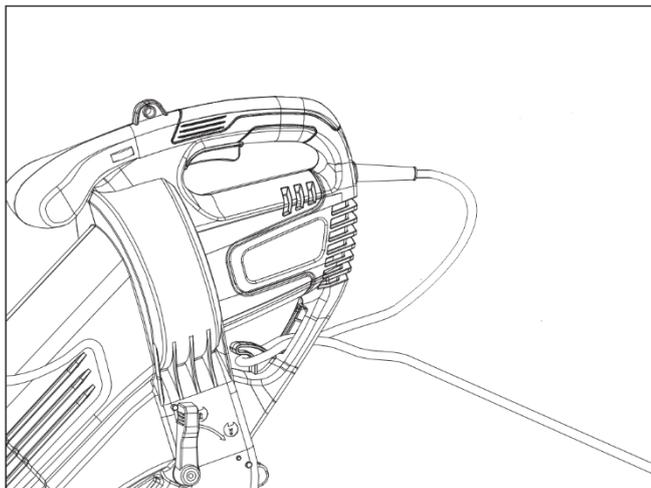

Fig. 3
2. Make sure the on/off switch (1) is in its off position. Connect the plug with the extension cord socket .
3. Loop the cable through the hole on the rear safe guard and hook the loop over the cord retainer. Gently pull on the cord to ensure that it is firmly attached at the handle (Fig. 3).
5. Your product is now ready to be used by switching on (1) .